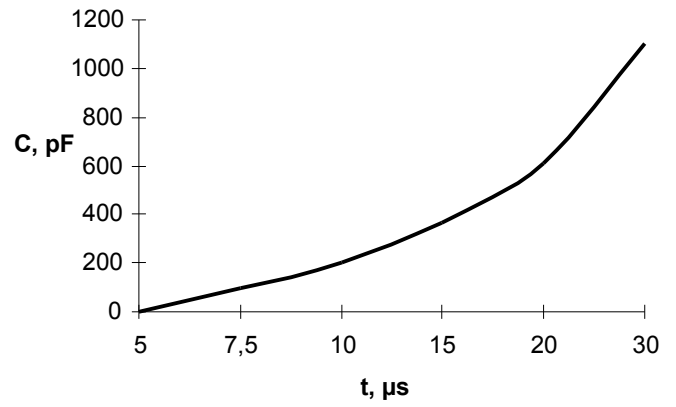

Figure 8 – Dependence of turn-on delay duration of non-saturation protection on the nominal of trimming capacity  $C_b$
Gate resistors ( $R_{on}$ ,  $R_{off}$ ) are necessary for decreasing of maximum pulse current. Gate resistors are installed with resistance of  $0 \Omega$ . It is allowed to install the resistors with different nominal, for instance, for turn-off width increase of controlled transistor to decrease voltage amplitude of inductive kicks. The dependence of output pulse current on the nominal of gate resistors is represented at Figure 8. Initially, the resistors  $0.2 \Omega$  are installed that corresponds to the maximum pulse current.
**Capacitor Cb** – delay setting capacity of protection operation on non-saturation, ref. to Fig. 8. Initially the capacity of 100 pF is set on the driver that corresponds to the operation delay 7.5 μs.
- set up protection operation delay time by capacitor Cb in compliance with Figure 8;